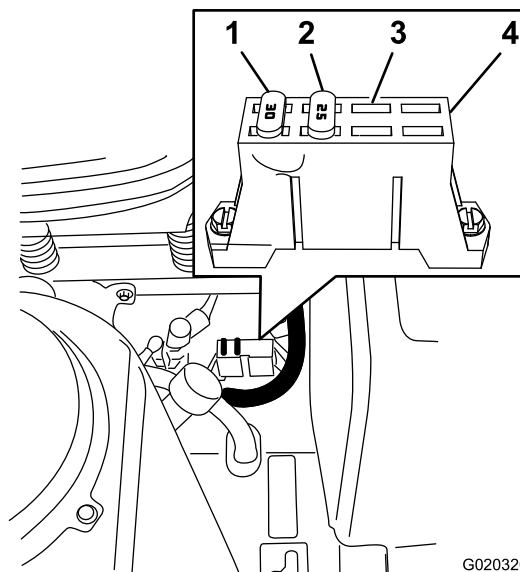

Figure 49
2. Align a new fuse with the slot in the fuse block (Figure 49).
3. Push the fuse into the fuse block until the fuse is seated (Figure 49).
**Note:** The fuses are located on right hand console next to the seat (Figure 49).